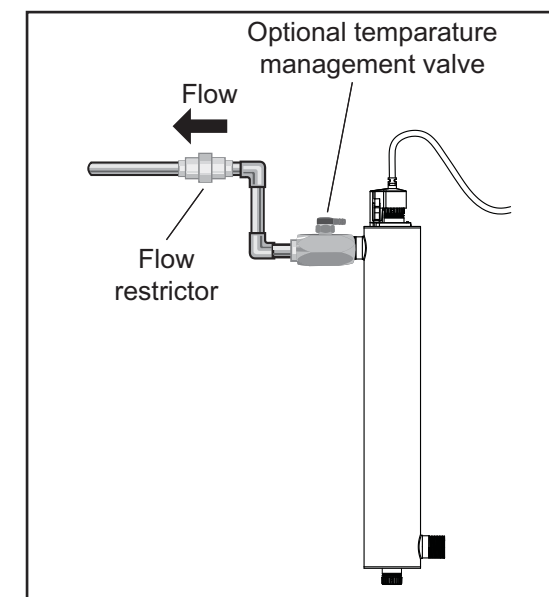

Figure 4 Flow Restrictor
- Mount the system to the wall using the supplied clamps. Various connection methods can be used to connect the water source to the system, however union type connectors are recommended. The use of a flow restrictor device will help to maintain the manufacturers rated flow. The flow restrictor should be installed on the outlet port and is designed to be installed in one direction only. Ensure that the flow of the water matches the flow direction as indicated on the flow restrictor. Refer to Figure 4.